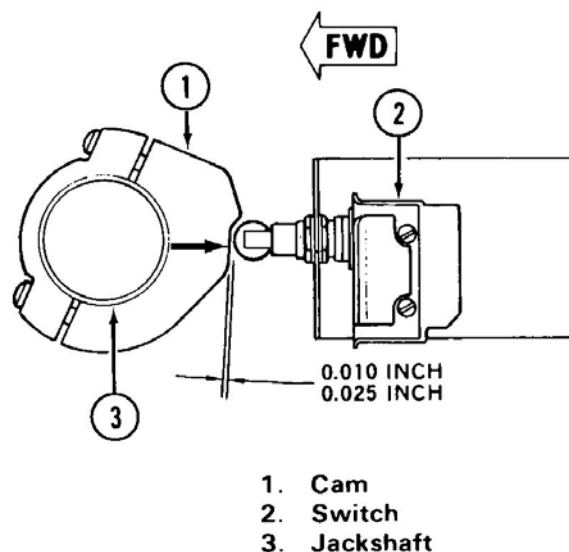

Figure 96-10. Bleed Air Priority Switch
- 96.12.10.3 Adjust switch to obtain 0.010 to 0.025 inch clearance between the cam and the switch roller actuator (Figure 96-10).